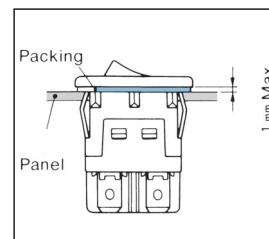

Fig.2.
- (2) Mount the switch on the panel so that the thickness of packing is 1 mm or below. (See Fig. 2.)